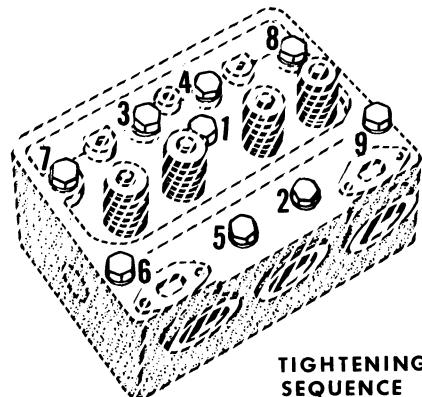

Figure K-6
- Torque cylinder head bolts or nuts to the proper sequence illustrated in Figure K-6. The three torquing steps recommended are 50 foot pounds, 100 foot pounds and finally 150 foot pounds.